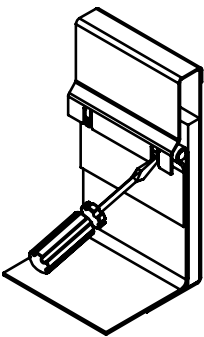

fig. 3
3. Install roofing material up to and surrounding the roof curb, and under the counterflashing at the top of the curb. Use the EZ tab feature, **fig. 3**, as shown to provide additional mechanical support to hold and secure roofing membrane. Lap and seal all joints in roofing material to provide a weather-tight seal.